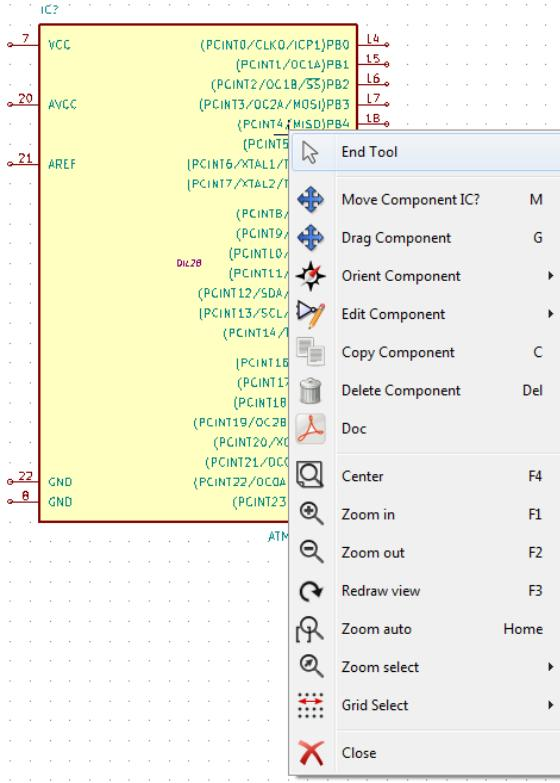

Figure 5: Edit component pop-up menu.
- e) A number of component editing operations are available by right clicking on the component (Fig. 5). Some of the operations have keyboard shortcut. The general way to use the shortcut is to place the cursor on the component